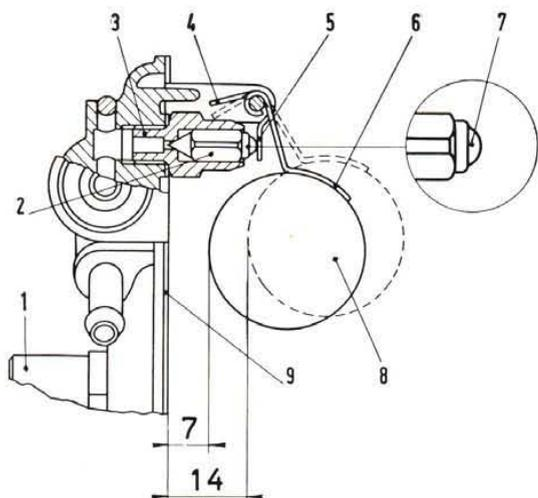

Fig. 146 - Float level adjustment diagram. Weber carburetors « 30 ICF » and « 30 ICF 7 ».
– Ensure that the needle valve (3, fig. 146) is firmly screwed into its housing.
– Hold the body cover (1) in vertical position lest the weight of the float (8) may lower the ball (7) in valve needle (2).
– With the body cover (1) vertical and the float arm (5) just touching the ball (7), the float (8) should be  $.276''$  (7 mm) from the mating face of the cover with gasket (9) properly seated thereon.
– When the level is correct check that the float (8) travel is  $.276''$  (7 mm) and if necessary adjust the position of the lug (4).
– If the float (8) is not in the correct position, adjust the position of the float arms (6) to obtain the prescribed measurement. Check that the arm (5) is at right angle to the needle and free of such blemishes at the contact surface as the even movement of the valve needle might be affected.
– Make sure that the float (8) can move freely around its pivot.
**WARNING** - In case the needle valve (3) must be replaced, ensure that the new valve is screwed firmly into its housing, setting a new sealing gasket. Next repeat the float level adjustment.